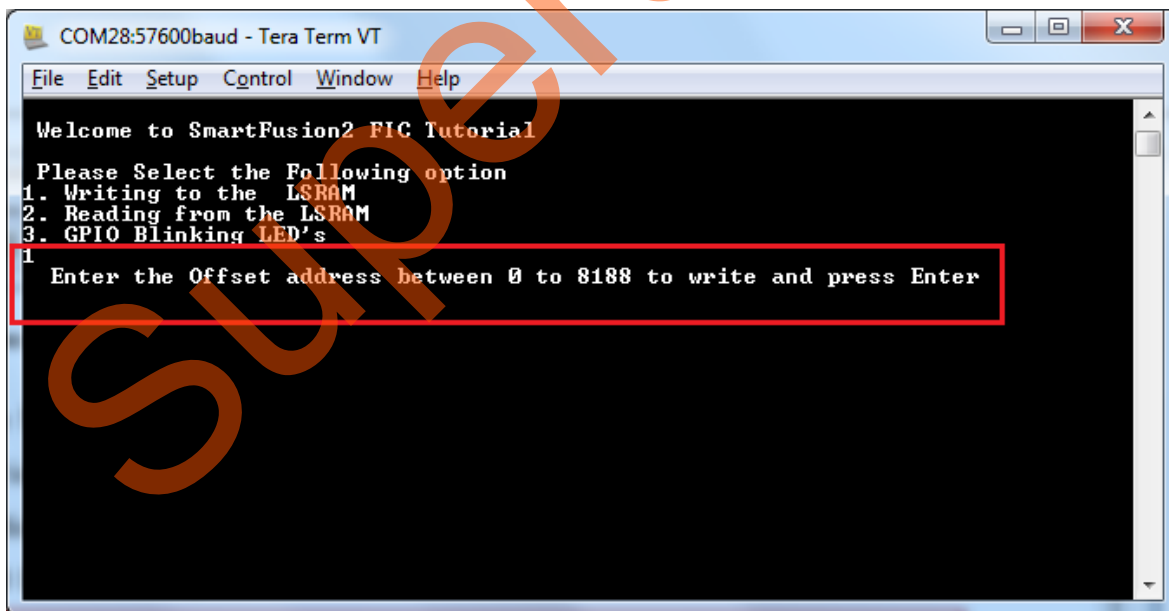

Figure 55 • Writing to LSRAM
9. Select **Writing to LSRAM**, it prompts for **Enter the offset address between 0 to 8188 to write and press Enter** as shown in Figure 55.